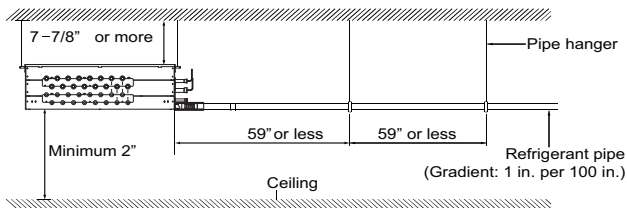

Fig. 7 — Space Required for Condensate Drain Installation
- For additional recommendations see Fig. 7.